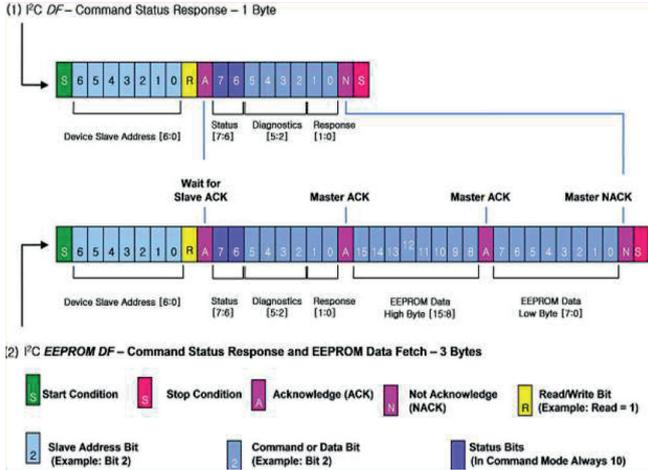

Figure 4.6: Command mode Data Fetch
After a command has been sent and the execution time defined in Table 4.4 has expired, an I²C Data Fetch (DF) can be performed to fetch the response. As shown in Figure 4.6, after the slave address has been sent, the first byte fetched is the response byte.
For all commands except EEPROM Read, the data fetch should be terminated after the response byte is read. If the command was an EEPROM Read, then the user will fetch two more bytes as shown in **Figure 4.6**, example 3. If a Corrected EEPROM Error diagnostic was flagged after an EEPROM read, the user has the option to write this data back to attempt to fix the error. Instead of polling to determine if a command has finished executing, the user can use the Ready pin. In this case, wait for the ready pin to rise, which indicates that the command has executed. Then a data fetch can be performed to get the response and data (see **Figure 4.6**)